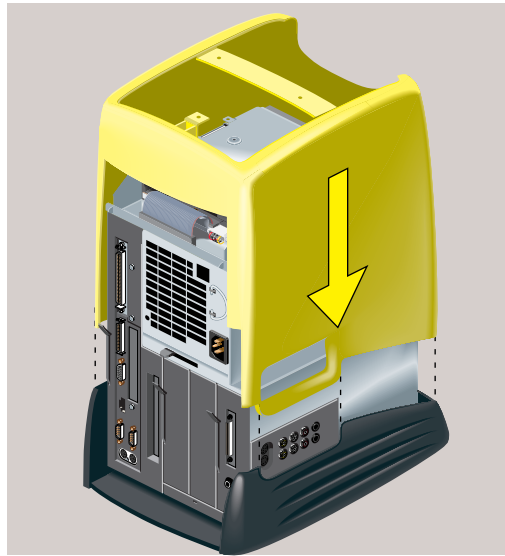

Figure 5-56 Replacing the Outer Cover
15. Replace the outer cover by aligning the three screw holes on the cover with the screw holes in the CD-ROM tray and lowering the cover until it is fully seated (Figure 5-56).